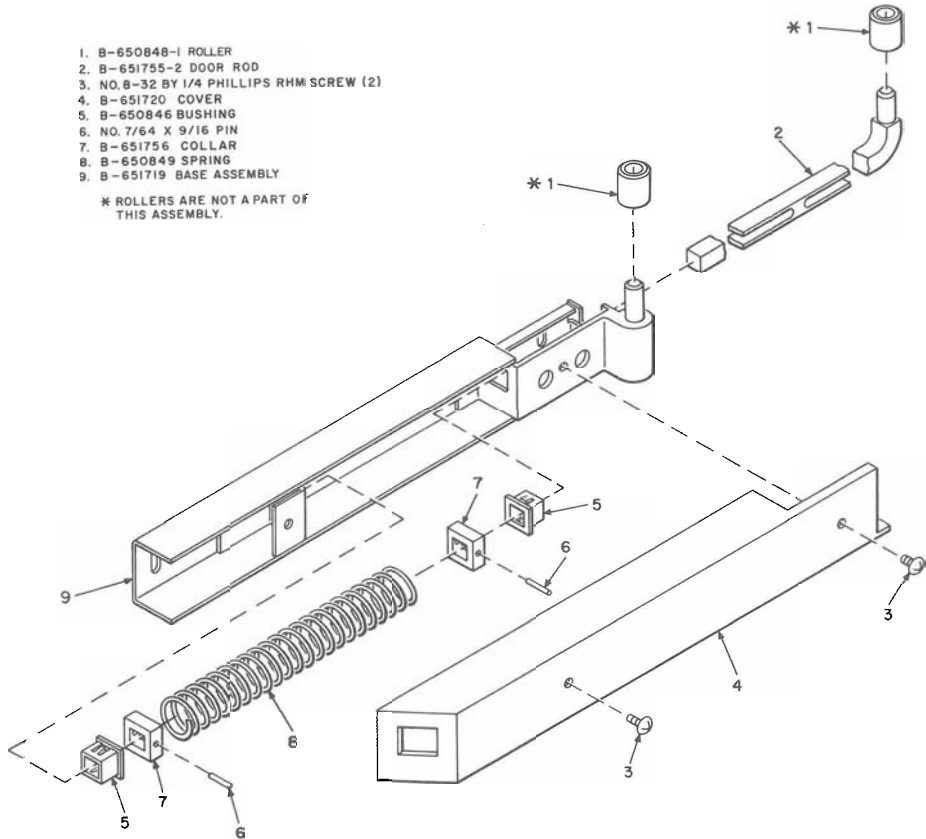

Fig. 25—B-651721-2 Door Guide Assembly
4.28 The KS-19580 booth will have either a B-651721-2 short-roller door guide assembly (Fig. 25) or a B-993172-2 long-roller door guide assembly (Fig. 26). The B-993172-2 door guide assembly requires a different ceiling, baffle, and a deeper track to accommodate the longer roller. If a problem exists with door guide rollers jumping out of the track, booths can be modified in the service center to accept the long-roller door guide.
- (a) Remove two screws and B-651720 cover (Fig. 25 and 26.)